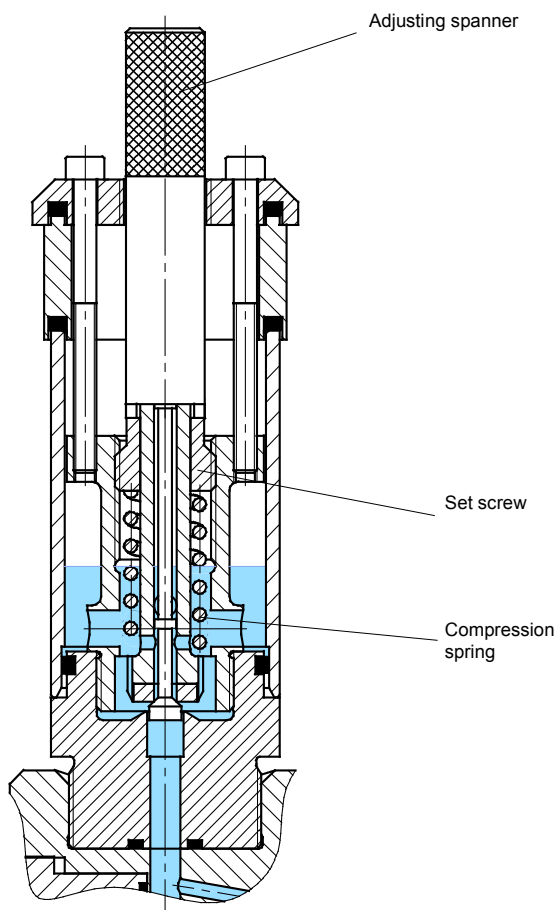

Fig. 57
- Turn slowly the adjusting screw anti-clockwise by means of an adjusting spanner with the pump running (see Fig. 57) until the fluid level in the store tank rises suddenly - > hydraulic discharge valve opens.